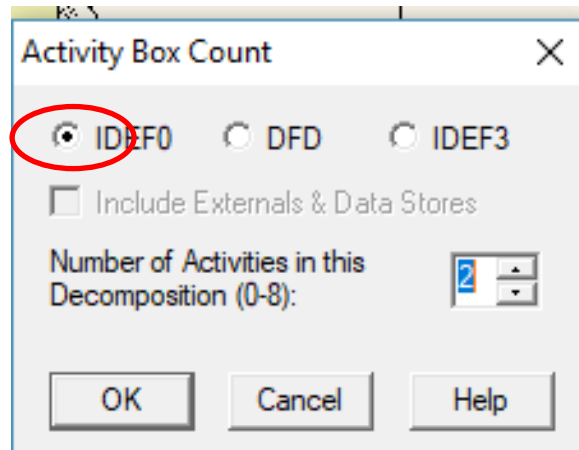

Fig. 3.3. The block decomposition dialog box
5. Select the **IDEF0** diagram type (fig. 3.3) and click OK.